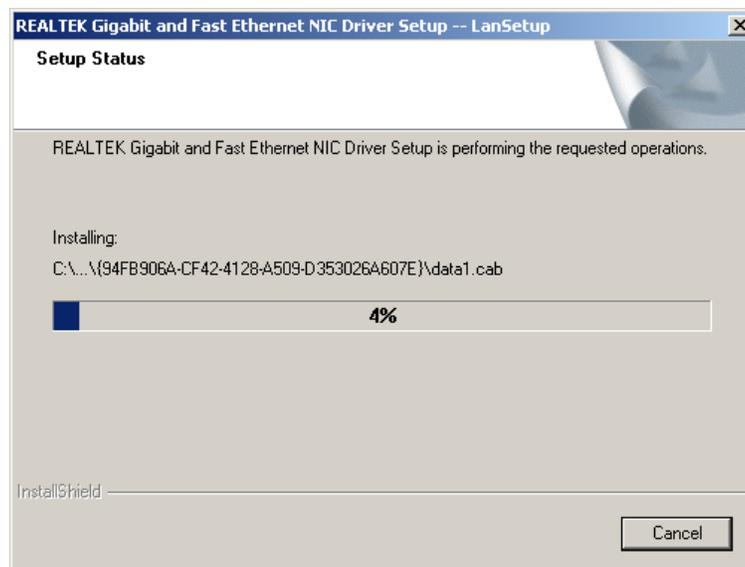

Figure 6-28: LAN Driver Installation
Step 10: The **Install Wizard** starts to install the LAN driver. See **Figure 6-28**.